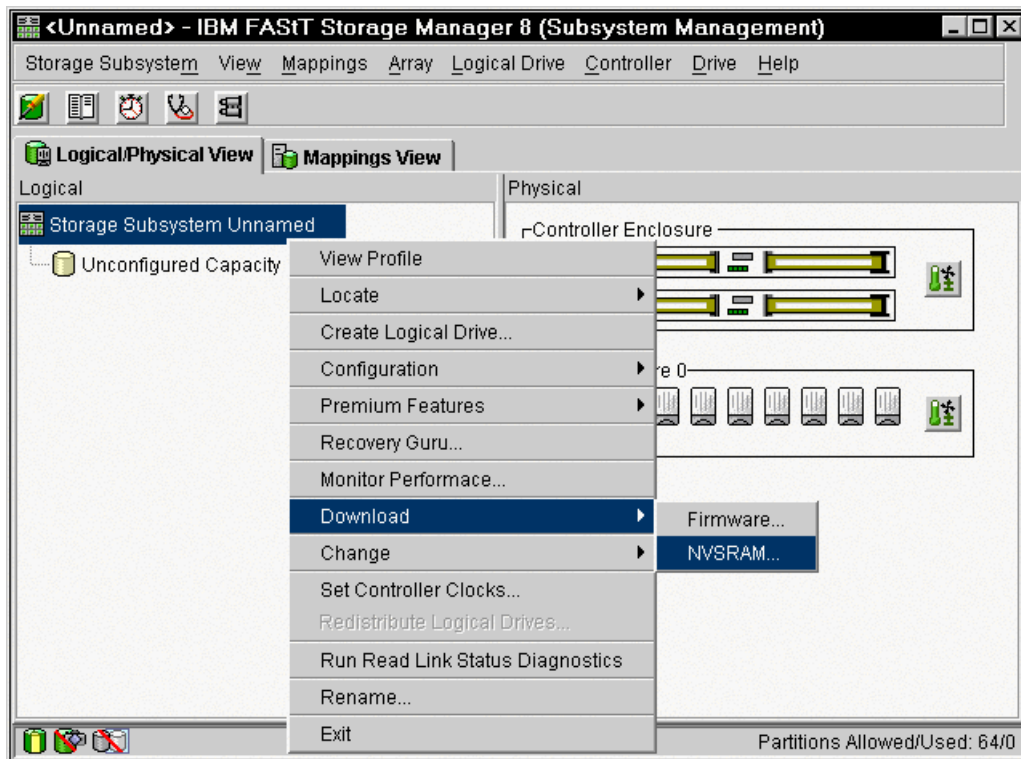

Figure 4-18 Subsystem Management window: Download-> NVSRAM
- a. Highlight the storage subsystem again and click **Storage Subsystem-> Download-> NVSRAM** as shown in Figure 4-18.